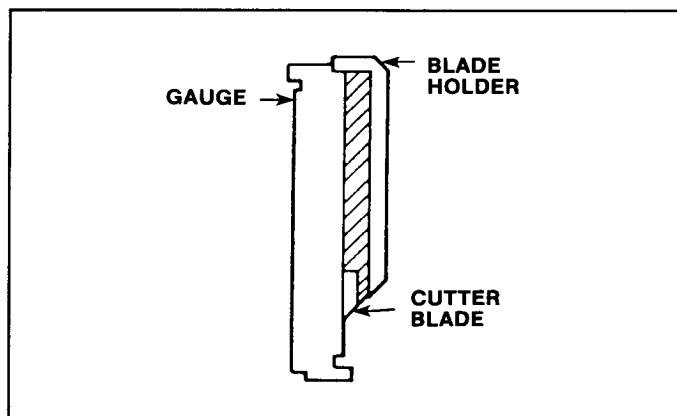

Figure 7
2. Set the assembly against the set gauge as illustrated in Figure 7. Loosen the two Phillips screws at the back of the assembly enough to permit free blade movement.